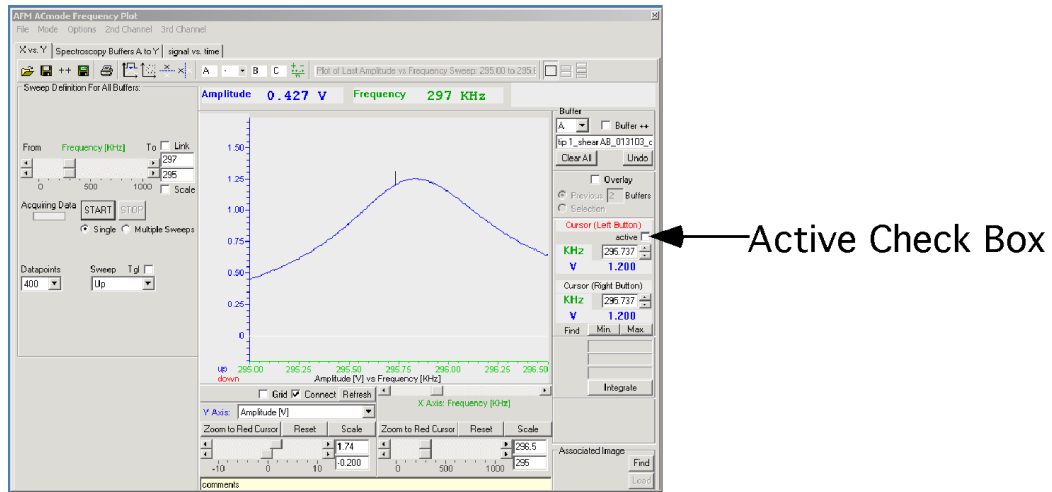

Figure 4.13
11. Check the **Active** check box in the Frequency plot window. See Figure 4.13 below.